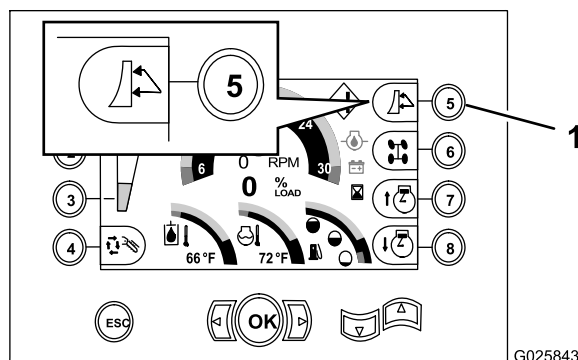

Figure 54
1. Switch the machine to the backfill blade function by pressing button 5 on the command center until the icon for the backfill blade appears (Figure 54).